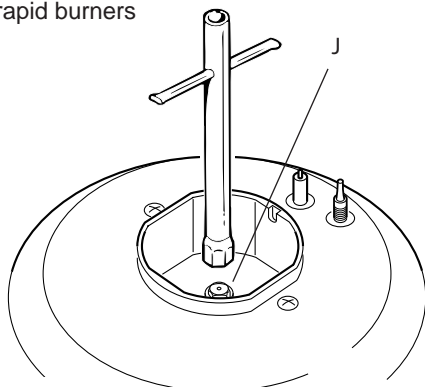

Fig. 8.5a
- Using a wrench, substitute the nozzle injectors "J" (figs. 8.5a - 8.5b) with those most suitable for the kind of gas for which it is to be used.